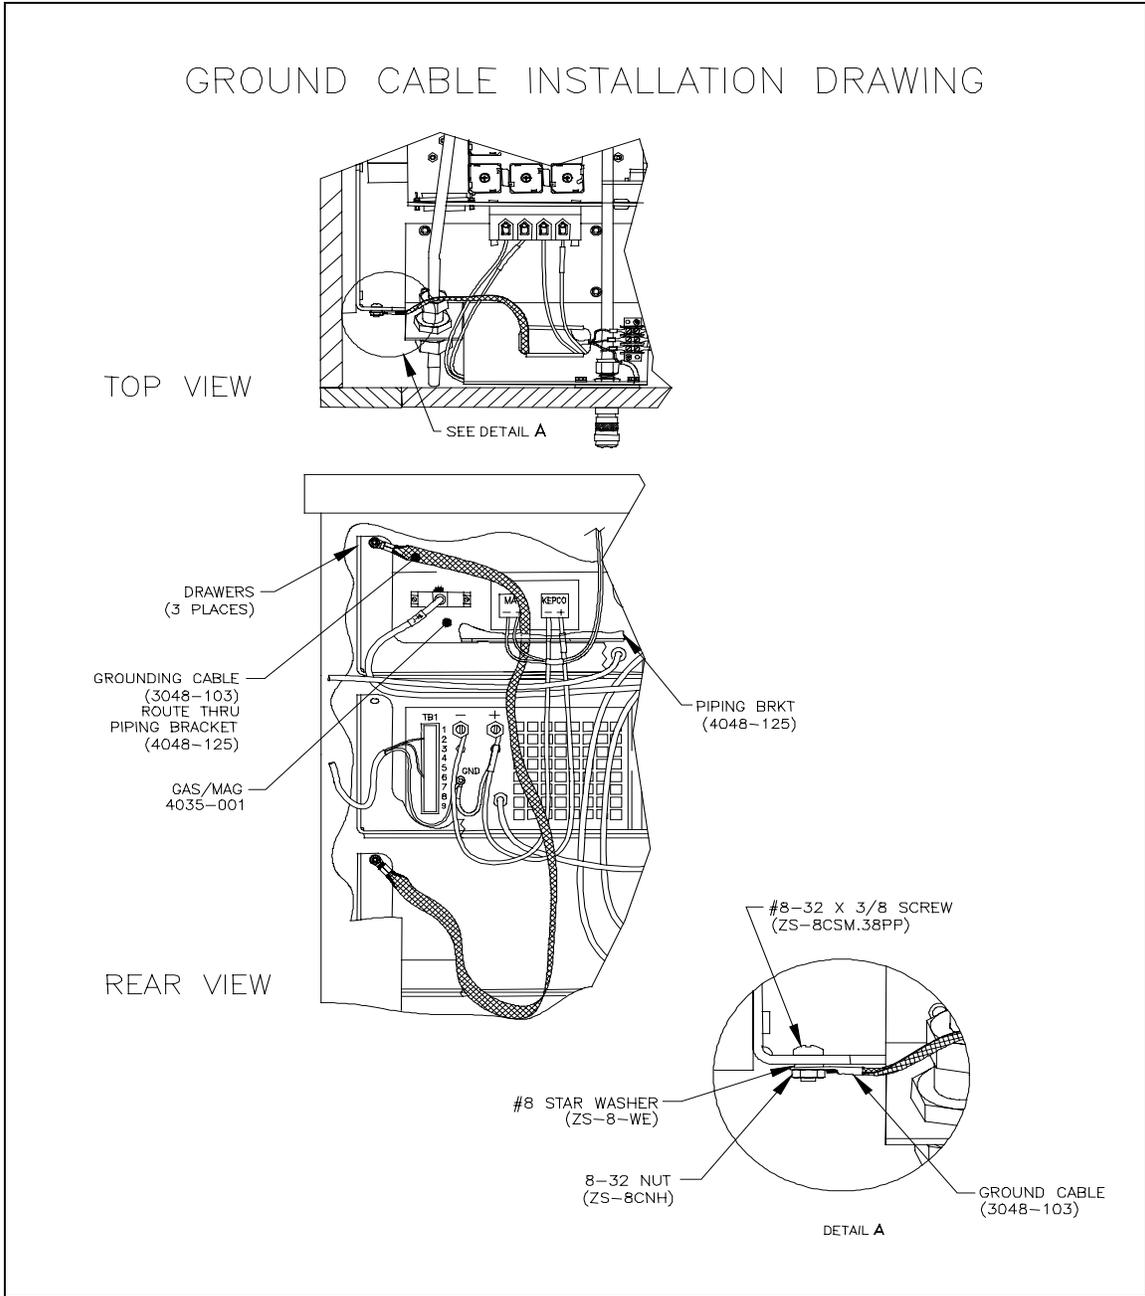

Figure 1. Ground Cable Installation Drawing
1. Refer to **Figure 1. Ground Cable Installation Drawing**, which has three images of the MPMS-XL cabinet: